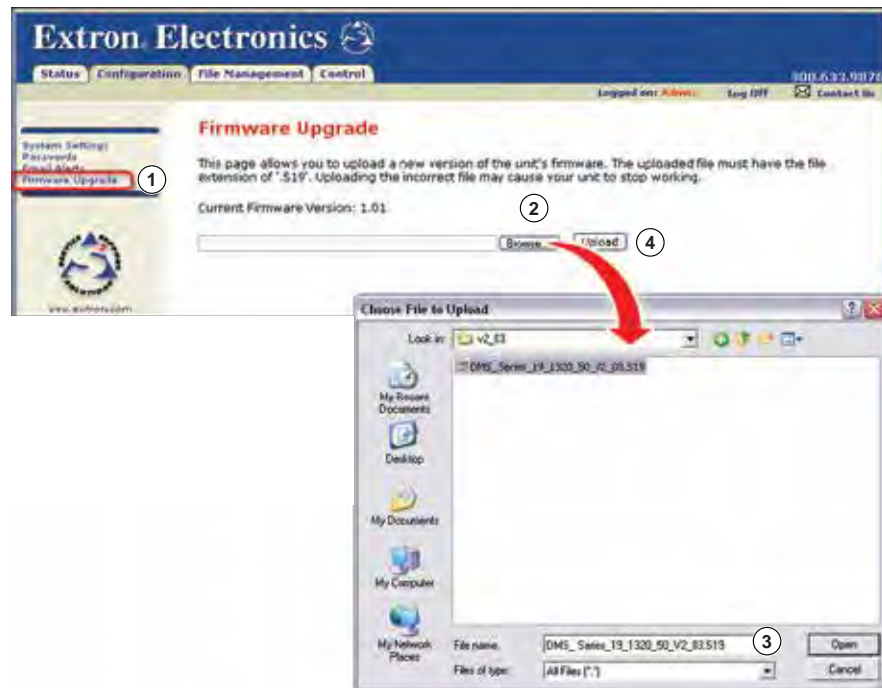

Figure 63. Firmware Upgrade
5. Click the **Firmware Upgrade** link (see figure 63 [①]).